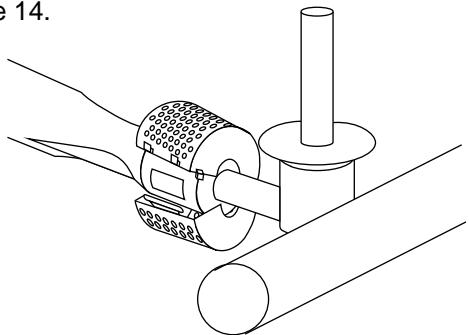

Figure 14
d) Unlatch the Spider Stopper Guards and remove. Figure 14.